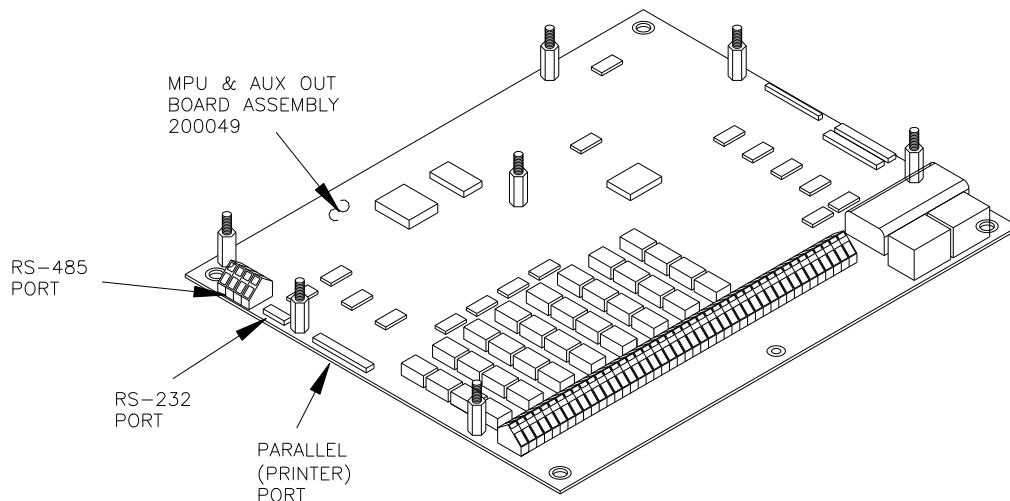

Figure 5. Serial & Parallel Ports
- 3.3.5. SERIAL PORTS** The BTA can communicate with a personal computer using one of two Recommended Standards of communications protocol. See Figure 5.